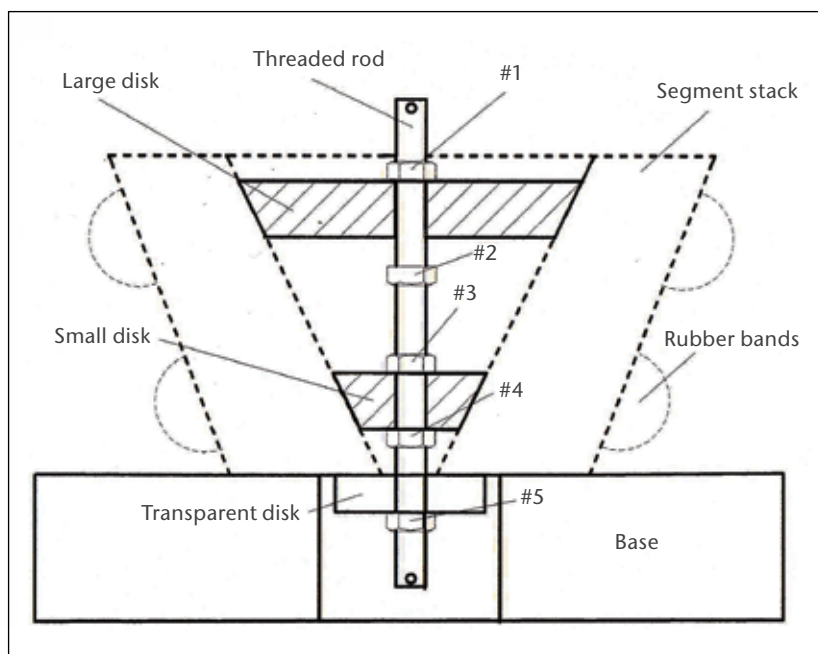

Figure 3. Adjustable conical core with assembly configuration.
Experiment by dry assembling wedges in various configurations. To try different scenarios with a conical core, you will need to make an adjustable fixture (*Figure 3, construction details later in this article*).
12. Position the stack over the conical core with the smaller diameter facing up. Place a smaller adjusting disk (the transparent disk in Figure 3) onto the threaded rod and tighten it in place with another nut. Further tighten this nut until the surface of the large disk is flush with the wide bottom of the stack (Photo 29).
17. Mount the stack with its narrow end up (Photo 37). Turn the adjusting nut (nut 5 in Figure 3) until the surface of the large disk is flush with the wedges, as shown in Photo 38. Again, use a nail to prevent the rod from turning. This step ensures the diameter of the opening is equal to that in Step 7.